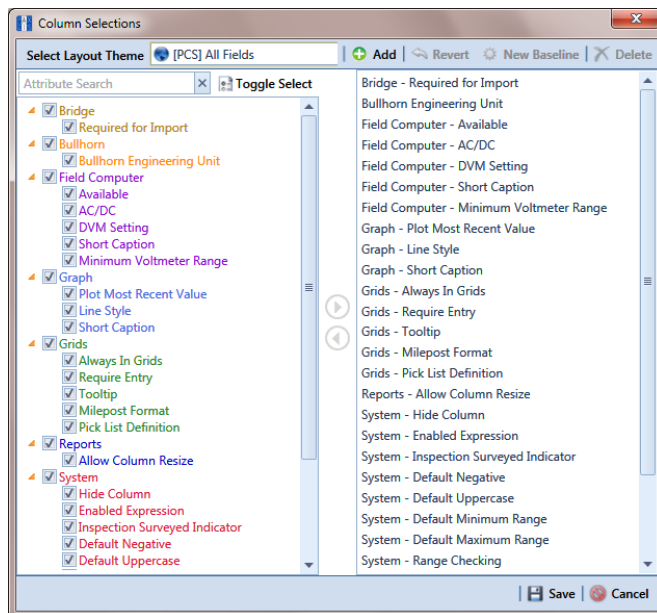

Figure 3-28. Column Selections
- 2 Click  **Customize** to open the *Column Selections* dialog box (Figure 3-28).
- 4 To remove one or more fields in the layout theme, complete one of the following steps (Figure 3-28, page 71):